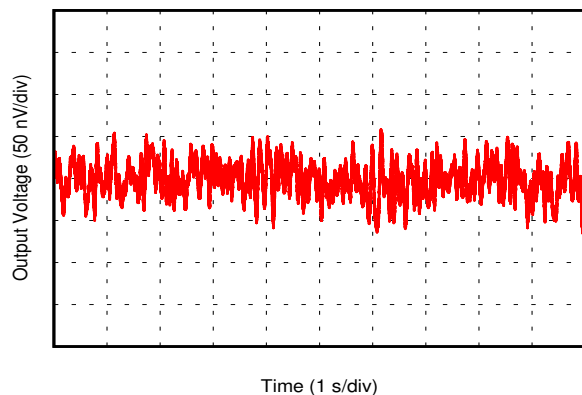

Figure 7-17. 0.1-Hz to 10-Hz Voltage Noise
0.1-Hz to 10-Hz Voltage Noise	<a href="#">Figure 7-17</a>